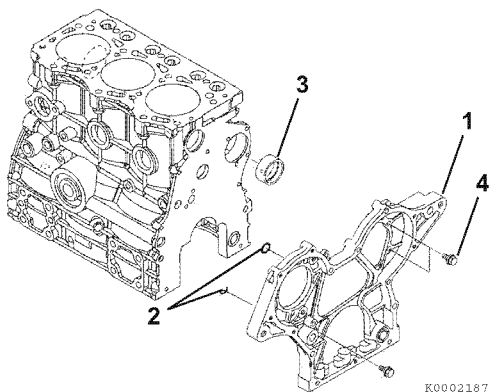

Figure 6-97
1. If removed, install a new camshaft bushing (**Figure 6-97, (3)**) using the appropriate service tool.
3. Reinstall dowels and new O-rings (**Figure 6-97, (2)**).
4. Reinstall the gear case (**Figure 6-97, (1)**). Tighten the bolts (**Figure 6-97, (4)**) to the specified torque.